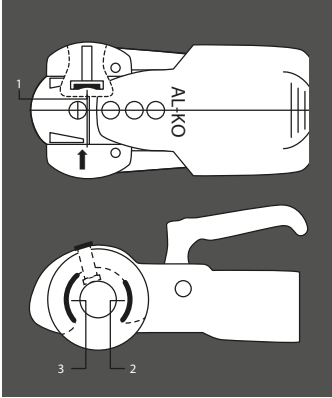
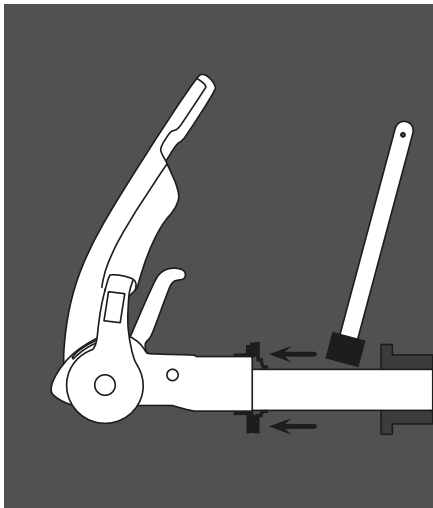

Figure 10 -AKS 3004 friction pads
Figure 12 - Remedial action
1. Ensure the towing shaft with coupling head is pulled FULLY FORWARD. (Fig. 10).
2. Release the handbrake to the FULLY OFF position. If the handbrake will not go down the whole way because of the fairing or any other obstruction; then the fairing must be cut away and/or the obstruction removed to achieve this desired position. It will not be possible to set up the braking system properly when the handbrake is not in the FULLY OFF position. (Fig. 10).
4. Remove the inner plastic bung from the backplate to expose the "starwheel" adjuster access. (Figs. 10 & 11).
When the inner cable is pulled out it should extend between 5 and 8 mm. (Fig.12). (On tandem axles a double abutment (bracket) is fitted to the front axle ONLY).
10. Ensure the balance bar (compensator) is being pulled evenly (Figs.10 & 12). Excessive movement to this bar (double on tandem axles) would indicate possible incorrect adjustment (if appropriate, repeat step No. 7 - Fig. 12).
ball nut (Fig. 12/Item 2) could induce movement of the inner brake cable, reducing the effective clearance of the brake shoes. If the overrun lever will not make contact, it is possible the two lock nuts, forward of the spring cylinder, are incorrectly adjusted. Loosen the nuts and adjust brake rod as above (Figs. 10 & 12).
13. Adjust the two locking nuts, forward of the spring cylinder (Fig. 10), (on some chassis a single Nyloc nut is used) to give 1 mm of clearance on the spring cylinder. This cylinder (the energy store for the handbrake operation) must be able to rotate ONLY, not slide on the brake rod. (Fig. 12). **(If the overrun assembly is fitted with a gas strut handbrake then no spring cylinder is fitted - therefore ignore this paragraph).**
NOTE: The friction pads (Fig 10/Items 1, 2 & 3) are pressed against the towball and hence generate a stabilising/damping force. These pads are therefore subject to wear over time, however they will have a long service life (circa.30,000 miles), provided they are well maintained and kept free of grease/dirt.
- b. Lubricate the drawshaft sleeve via the grease nipples. In addition, push the gaiter forward and grease (DIN 51 825 KTA 3K) the exposed part of the shaft (Fig 12).